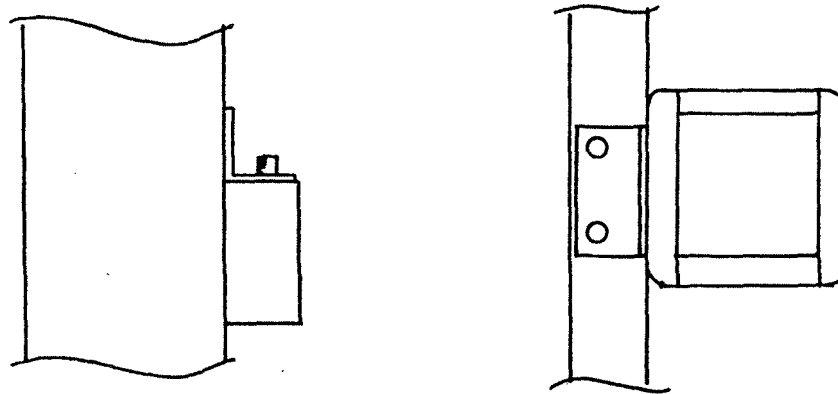

Figure 7
- 6.3.1 The resonator shall be held in place, on two resonator support rails, using a combination of a drilled angle bracket and an aluminum dowel. This systems utilizes a gravity to hold the resonator in place. (See Figure 7)